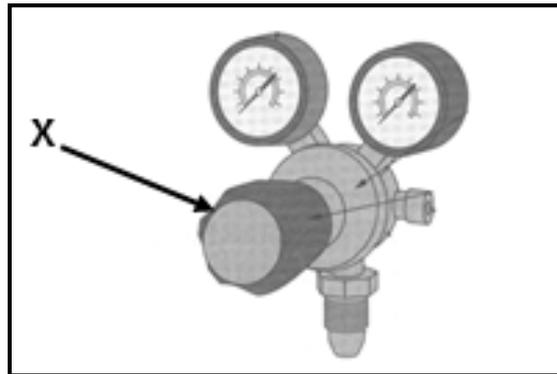

FIGURE 4.5
- D Centralised lubrication piping method (1)
4.5 FIGURE 4.5 below shows an oxygen regulator. Identify component X.